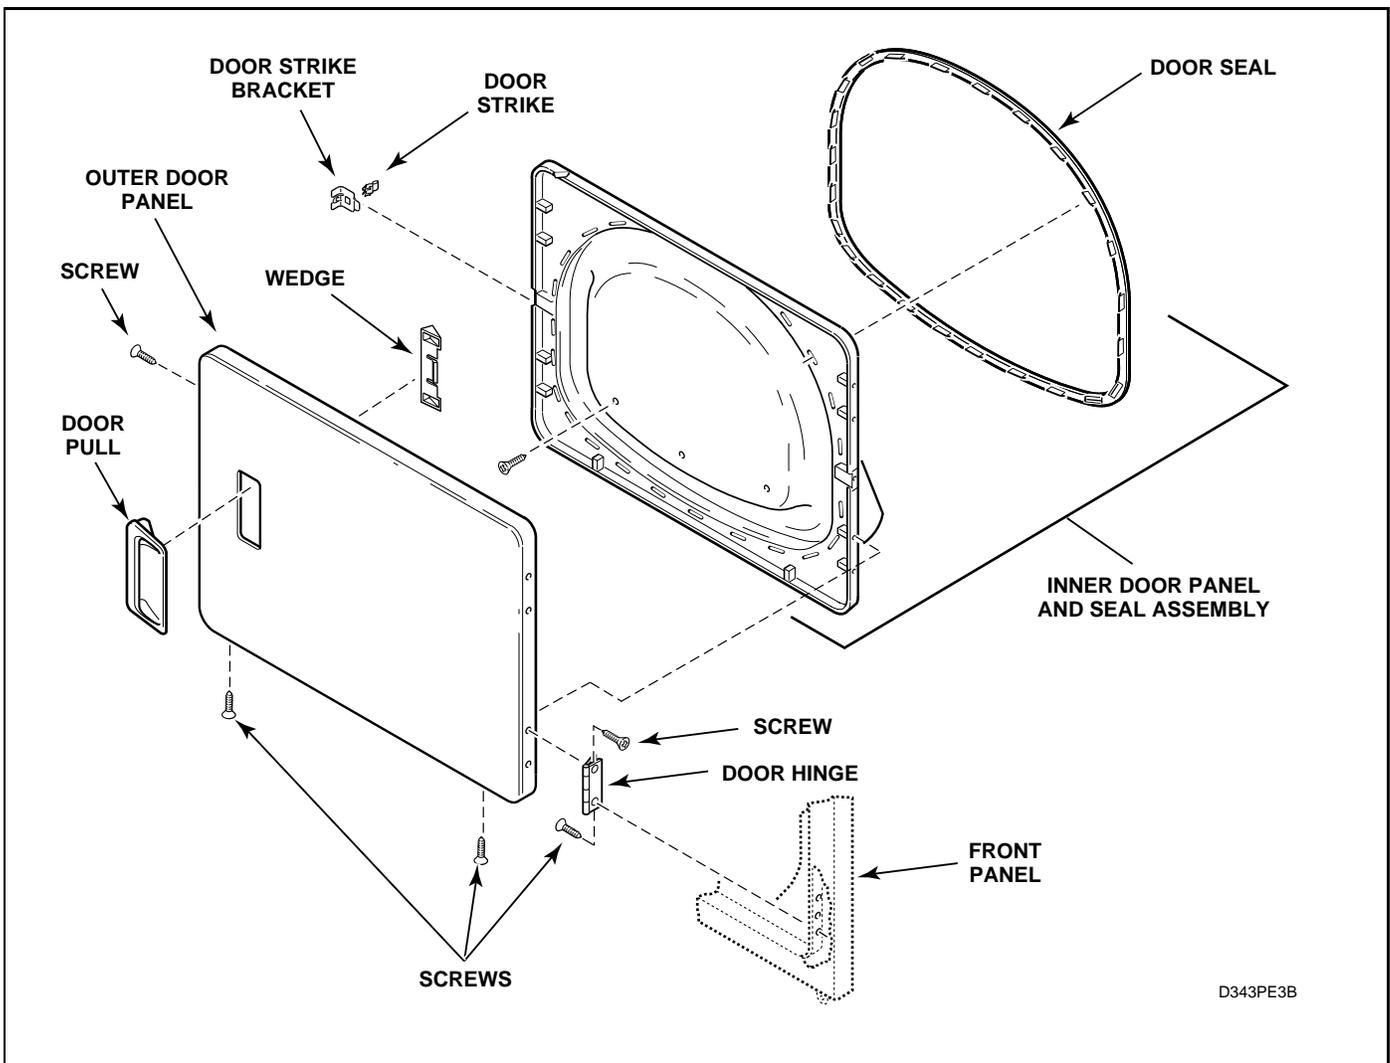

Figure 31
- b. Remove remaining screws around the door perimeter and separate panels. See *Figure 31*.
- c. Remove wedge (located behind door pull) by carefully prying up on center of wedge. See *Figure 31*.
- d. Remove door pull. See *Figure 31*.
35. DOOR STRIKE (*Figure 31*)